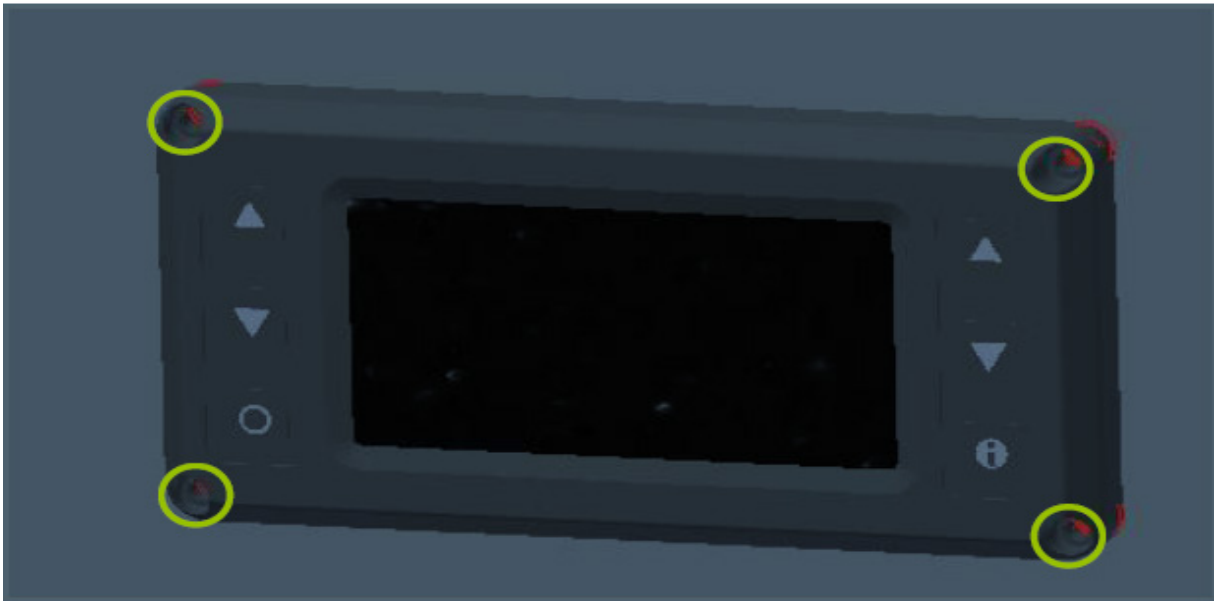

Figure 5 - MCC Screen Location.
- 1.6. Remove the old M3 screws and replace them with new M3 screws P/N N32320 (see figure 5).